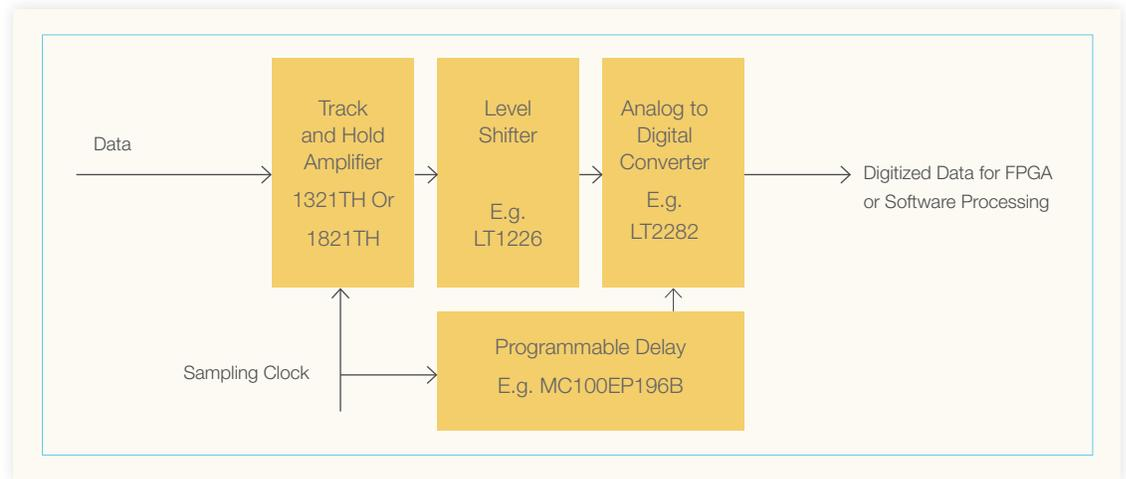

Fig 5.1.1 Details of Voltage Sampler
**5.1: Voltage Sampler:** The voltage sampling block is divided into three sections. Fig 5.1.1 shows the proposed architecture.